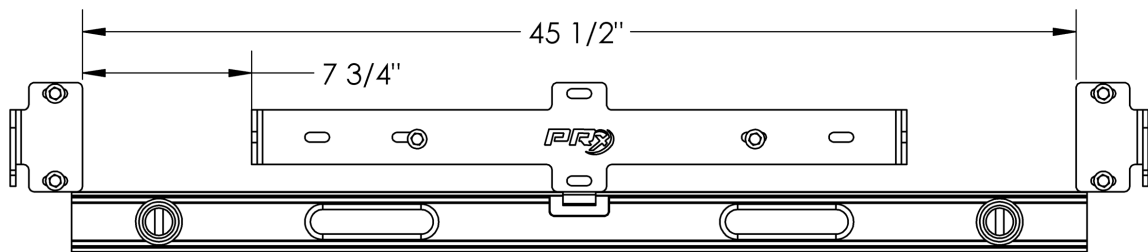

Figure 4: Stabilizer bracket vertical and horizontal alignment
- Using the tape measure, set the distance from the inside edge of the left wall bracket to the inside edge of the right wall bracket to 45-1/2" (**Figure 4**). Level the wall bracket and fully tighten the lag screws. Do not over tighten the lag screws.
2. Align the bottom tab of the stabilizer bracket with the mark from step 1 (**Figure 4**).